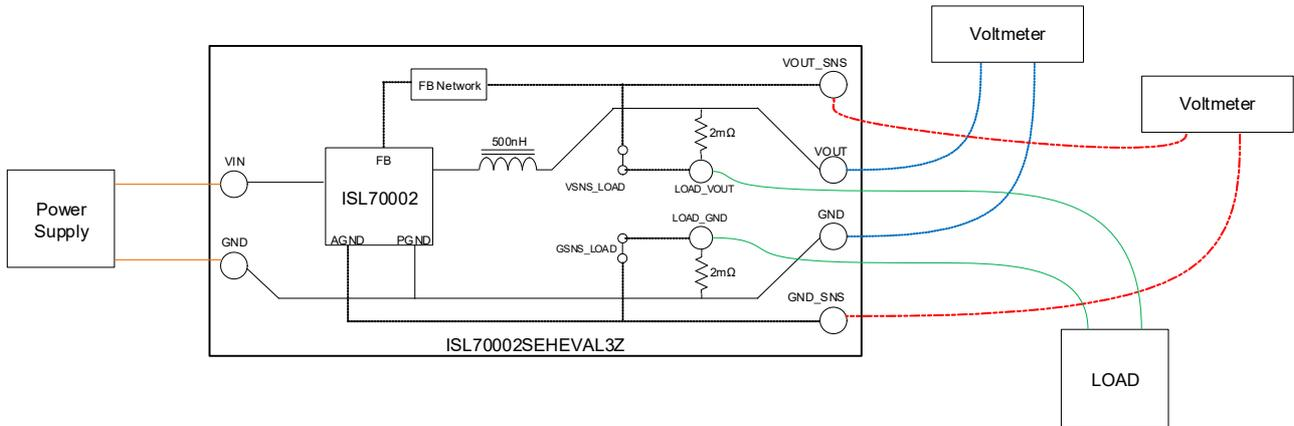

Figure 3. On-Board Series Resistor Diagram
1. The configuration shown in Figure 3 uses onboard series resistors to emulate resistive loss in a PCB or IC package.
4. Connect one voltmeter to the VOUT and GND terminals. Connect another to the VOUT_SNS and GND_SNS terminals as shown in Figure 3.